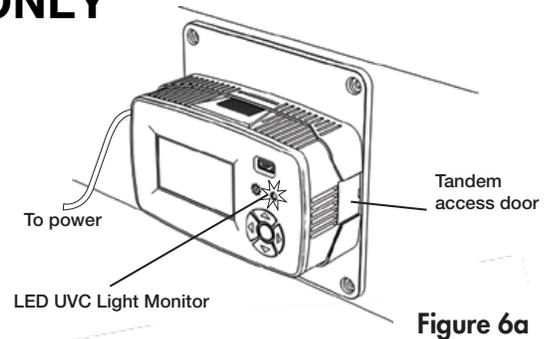

Figure 6a
Step 6a) – Remove tandem access door on right side of unit module. (Figure 6a) Units can be connected in tandem with the power cord provided. No extra cords are needed. Up to 4 units can be connected in tandem.